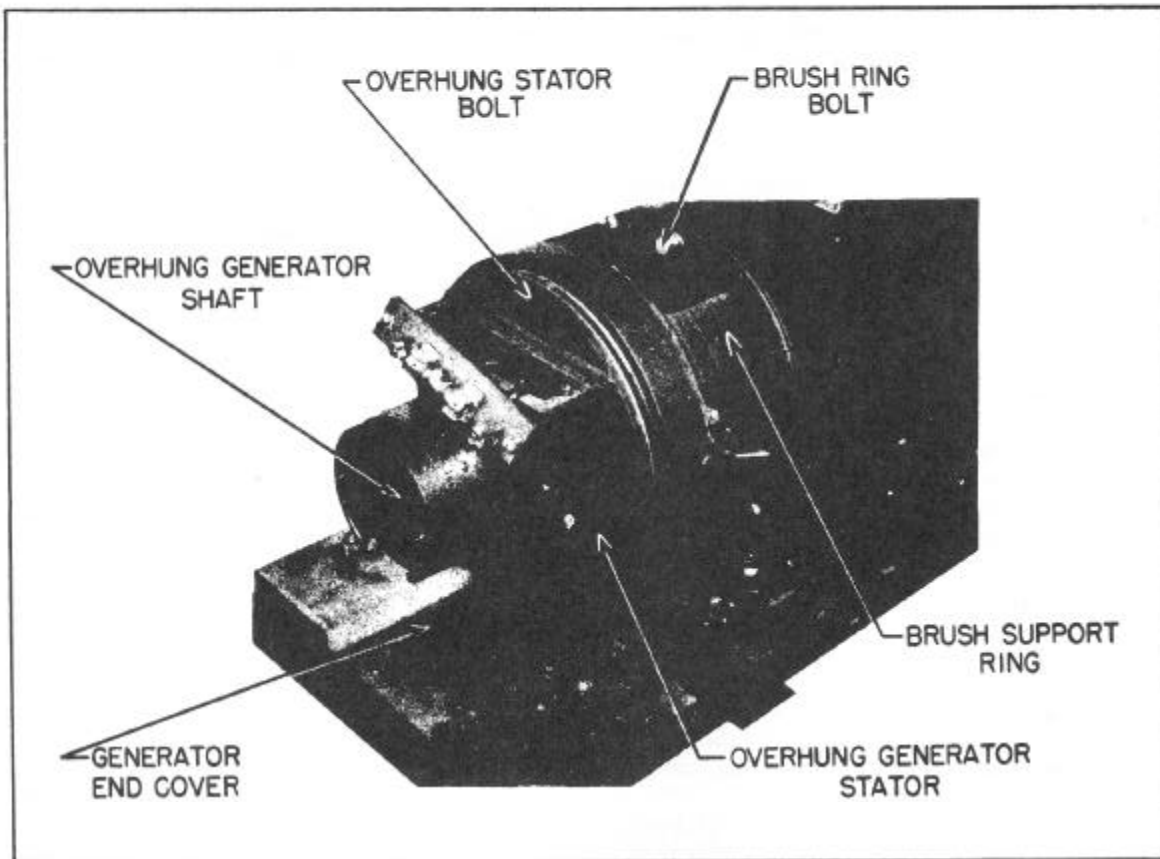

Figure 7-6—Generator End of M-G Set
**g. Motor-Generator Set.**—(See figures 7-6 and 7-7.)
(1) Cleaning and regreasing the motor-generator bearings will require that the armatures be removed. This involves an almost complete disassembly of the unit and should be performed with extreme care to avoid damage to the commutators and windings. If possible the mounting bolts should be removed and the set pulled out in the open, away from bulkheads, to where all sides of it are accessible.
(2) Open the numerous hand holes along the frame and remove all of the brushes. When removing brushes, mark each one at the end near the pigtail in such a way that when replaced it may be returned to the same brush holder and in the same position. Brushes should never be moved from one holder to another or turned over. The brush holders for the middle commutator (115 volts) and the brush holders next to the fan housing (500 volts) must be loosened on the ceramic studs and swung